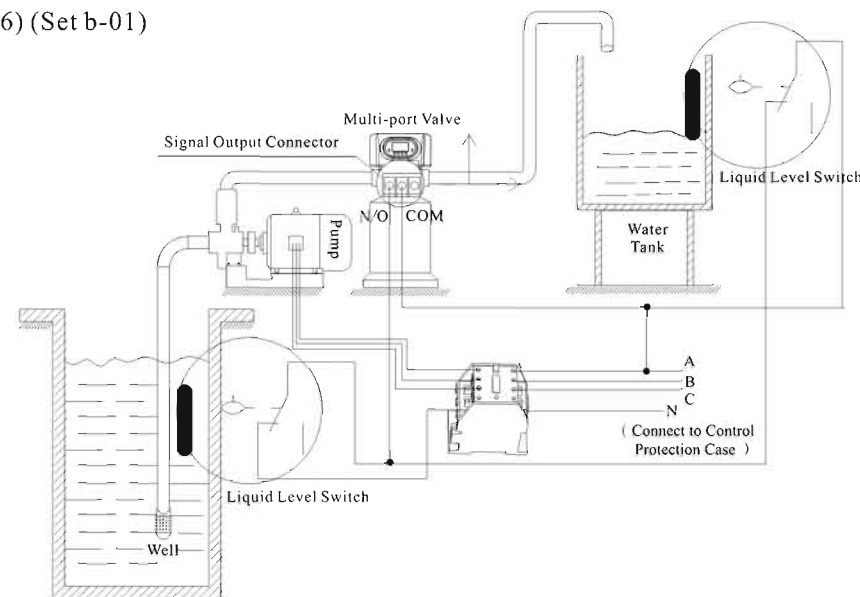

Figure 3-6 Wiring of Liquid Level Controller Controlling 380V Inlet Pump
3).Liquid Level Switch in Water Tank Controls Inlet Pump (Three-phase,Figure 3-6) (Set b-01)